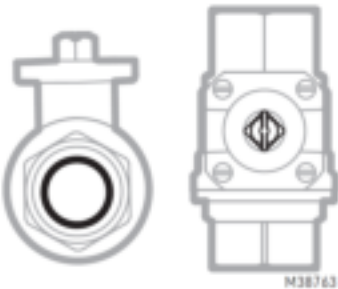

Fig. 3. Example of open ball valve.
- Make sure the ball valve is in the open position before installation to ensure alignment with the actuator. See Fig. 3.